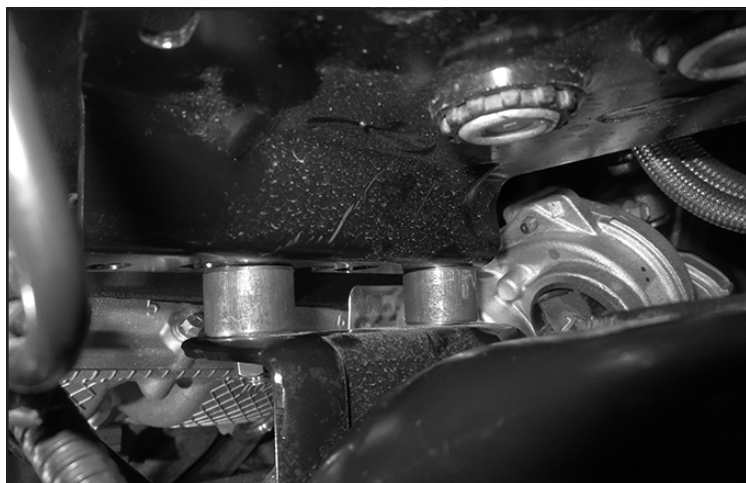

FIGURE 19 - STEP 20
20. **2020 Models** - Install two FT30929 (ABS Module spacer) between the ABS bracket and the upper shock mount bracket using the supplied 5/16" x 1-1/2" bolts, washers and nuts. **SEE FIGURE 19**